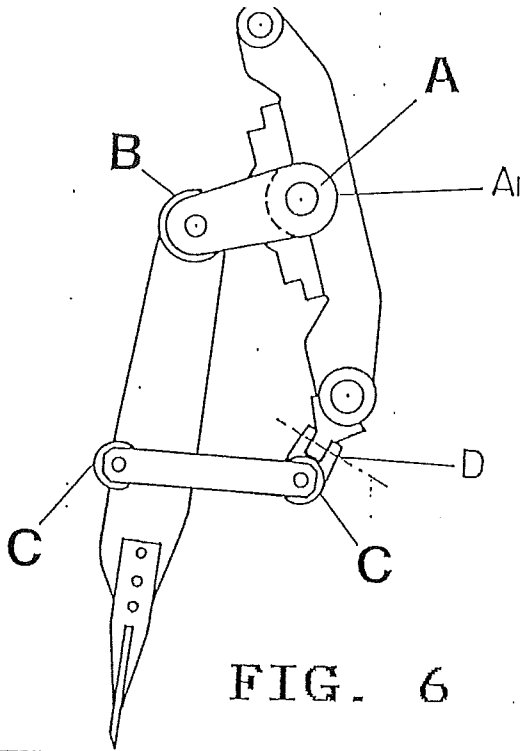

FIG. 6
- a) Release the spadeholder arm from the frame's lower pipe by unscrewing the bolts **fig.6 pos.D**.